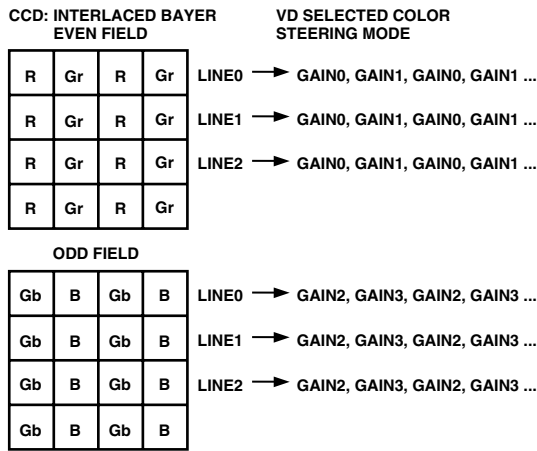
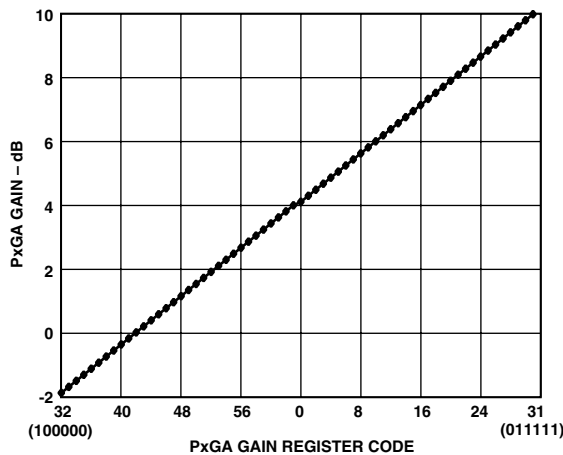

Figure 27. CCD Color Filter Example: Interlaced
Figure 28. PxGA Gain Curve
The same Bayer pattern can also be interlaced, and the VD Selected mode should be used with this type of CCD (see Figure 27). The Color Steering performs the proper multiplexing of the R, G, and B gain values (loaded into the PxGA gain registers), and is synchronized by the user with vertical (VD) and horizontal (HD) sync pulses. For more detailed information, see the PxGA Timing section. The PxGA gain for each of the four channels is variable from -2 dB to +10 dB, controlled in 64 steps through the serial interface. The PxGA gain curve is shown in Figure 28.